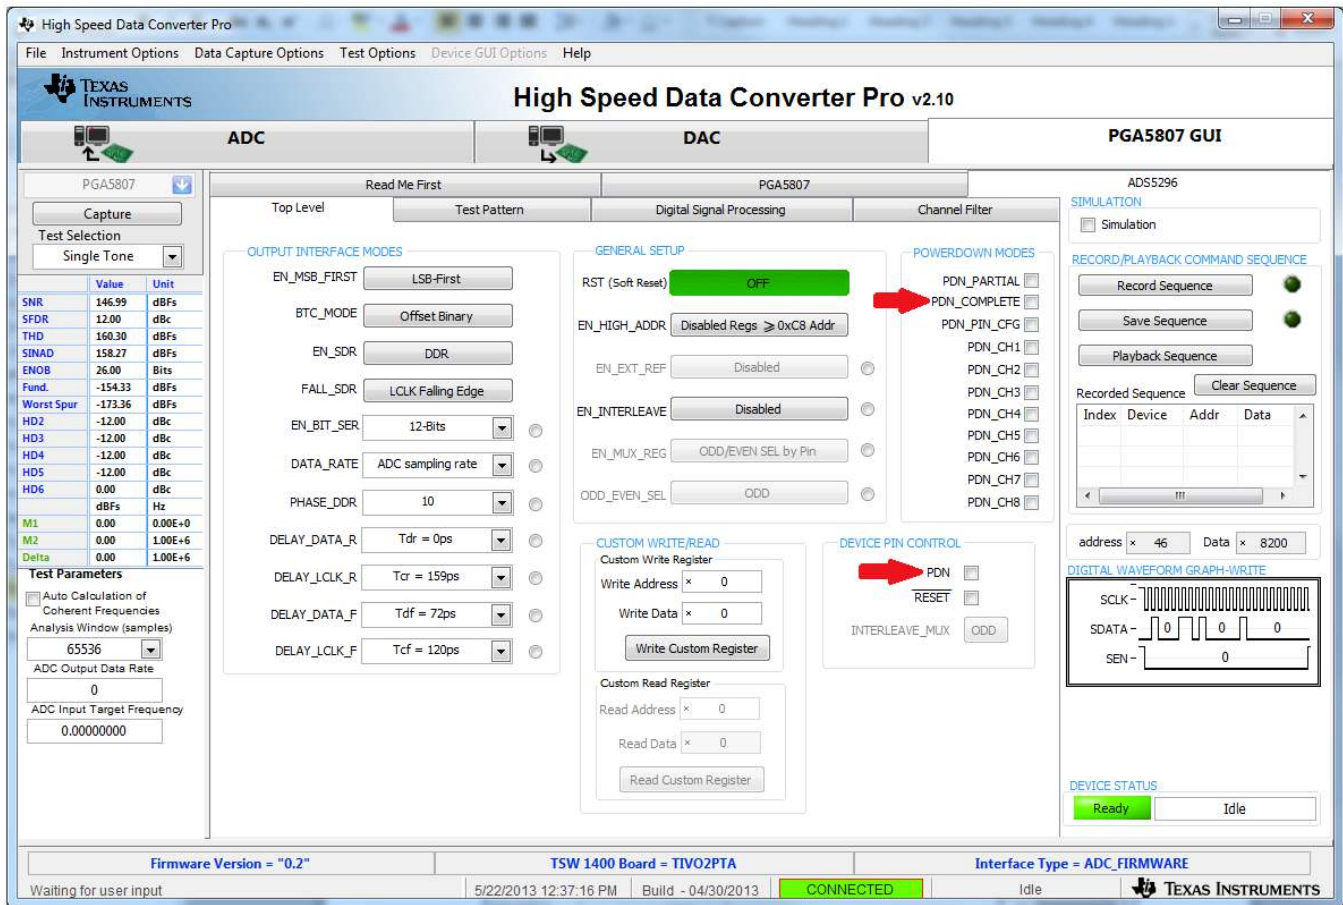

Figure 31. ADS5296 Tab of the PGA5807 GUI
As shown in Figure 31, the ADS5296 tab contains all controls pertaining to the ADS5296 device installed on the EVM.
- Verify that communication between the PGA5807 EVM and the PGA5807 GUI is established by toggling either the **PDN\_COMPLETE** checkbox or the **PDN** checkbox, as indicated on Figure 31. Checking either box should make +5-V power supply current drop from ~650 mA – 750 mA to ~350 mA – 450 mA. If the DC current is approximately 480 mA, with both power down boxes unchecked, it indicates that the ADS5296 is not receiving the sampling clock. Please ensure that the 3-pin headers are configured as described in Section 3.2. Before continuing, ensure that both power down boxes are left unchecked. At this point, the GUI is confirmed to be communicating correctly with the EVM and testing can begin.